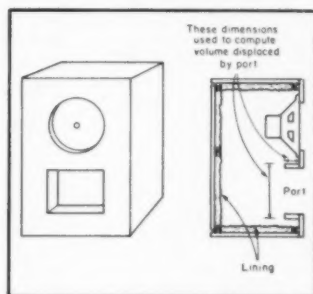

Fig. 4. Reflexed cabinet appearance, showing measurements to compute port displacement.
follows: the long side of the port may be made approximately equal to the diameter of the speaker cutout; this is economical in space and balances the appearance. The diameter of the speaker opening (and one side of the port rectangle) is $10\frac{1}{2}$ in. The other side of the port opening is then $85/10\frac{1}{2} = 8.1$ in., or approximately $8\frac{1}{8}$ in. (Great accuracy is not necessary, since the resonant frequency varies as the square root of the volumes, areas, etc., [See Eq. (1)]. Allowing 3 in. edge clearance and 2 in. between the speaker and port, the inside dimensions of the front will be $(3 + 8\frac{1}{8} + 2 + 12 + 3) = 28\frac{1}{8}$ in. long by $(3 + 12 + 3) = 18$ in. wide (speaker diameter is 12 in.). The frontal area is $(18)(28\frac{1}{8}) = 506$ sq. in. and the depth, then, must be $8555/506 = 16.9$ in. inside. Allowing $1\frac{1}{2}$ in. for the wall thickness including lining, the outside dimensions become $31\frac{1}{8} \times 21 \times 19.9$ inches. Suppose, now, that the front dimensions are satisfactory but the depth is too great. The port length L may be arbitrarily increased, say to 4 in. The volume, Eq. (2), now becomes 6639 cu. in. net; adding 200 cu. in. for the speaker and 289 cu. in. for that portion of the port tube projecting into the enclosure, measured as shown in Fig. 4, the gross internal volume equals 7128 cu. in. The inside depth, then, is $7128/506 = 14.1$ in. or 17.1 in. outside.